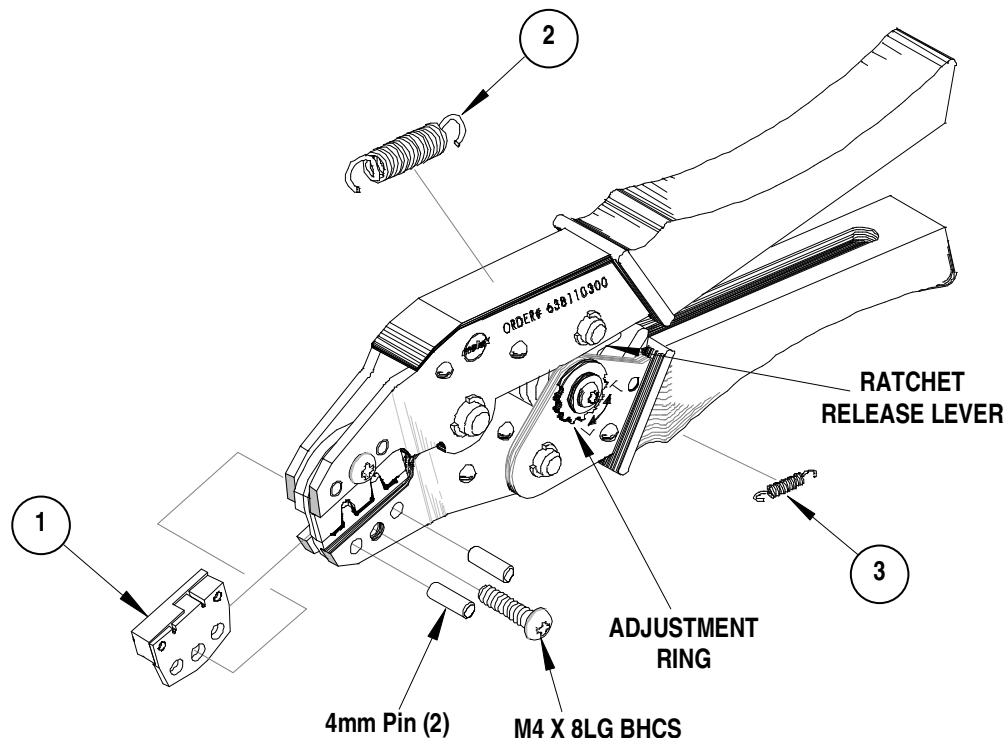

Figure 4
4. Finish closing the hand tool until the ratchet releases. See Figure 4.
Should this tool ever become stuck or jammed in a partially closed position, **Do Not force the handles open or closed.** The tool will open easily by lifting the ratchet release lever. See Figure 4.
How to Adjust Tool Crimp Force (See Figure 4)